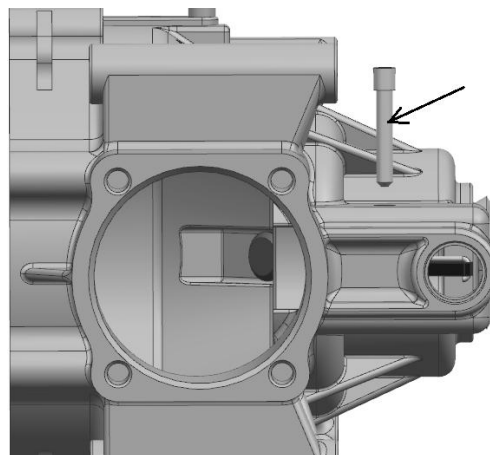

Fig 11
12.Remove the pin from the gearcase cover. →Fig 11
6.Install the lock shift (NO.46) pin and tighten. →Fig 11